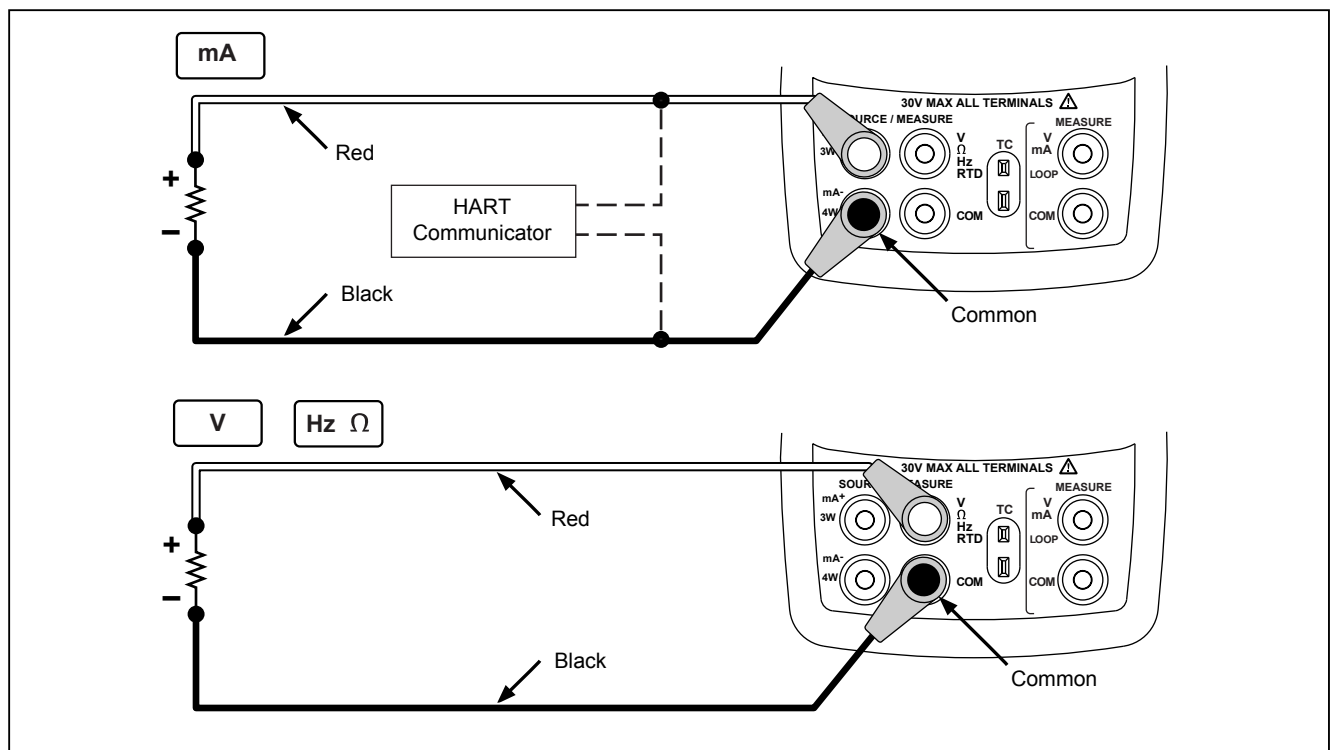

Figure 15. Electrical Sourcing Connections
1. Connect the test leads as shown in Figure 15, depending on the source function.